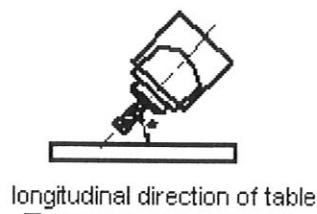

Fig.34
10.2 Bevel surface that has an angle with the working table of the work-piece can be milled by using bar miller.(see fig.34)